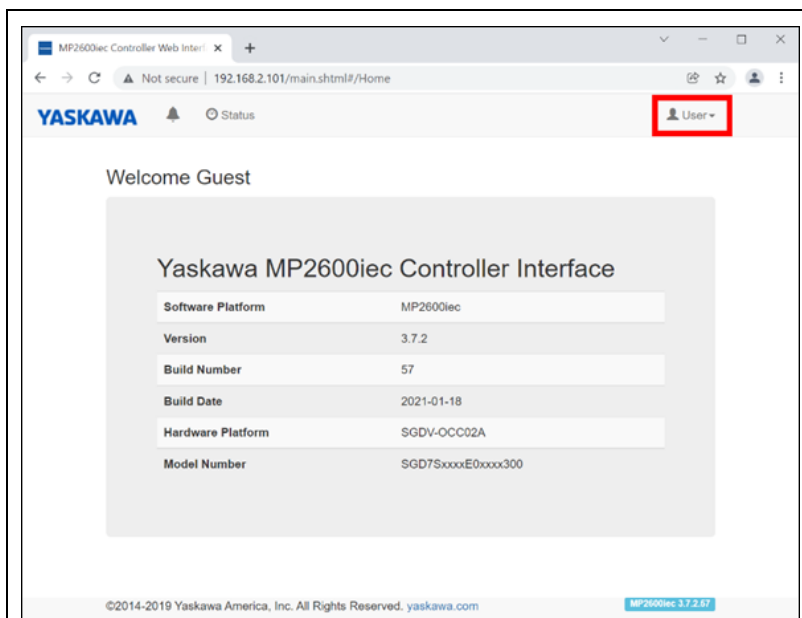

Figure 5-9
- Step 5. Communicate with the Yaskawa PLC controller: (Refer to Figure 5-9)